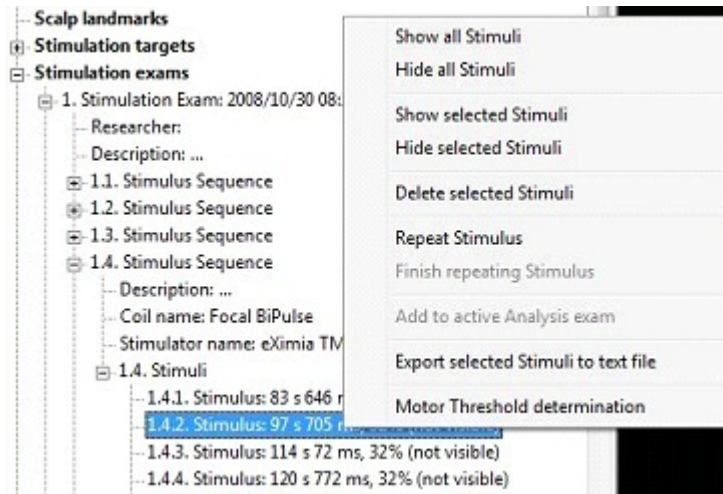

Fig. 95. Selecting Motor Threshold determination in the session tree
- a) In the session tree, select the starting stimulus. Right-click and select **Motor Threshold determination** from the pop-up menu (Figure 95).